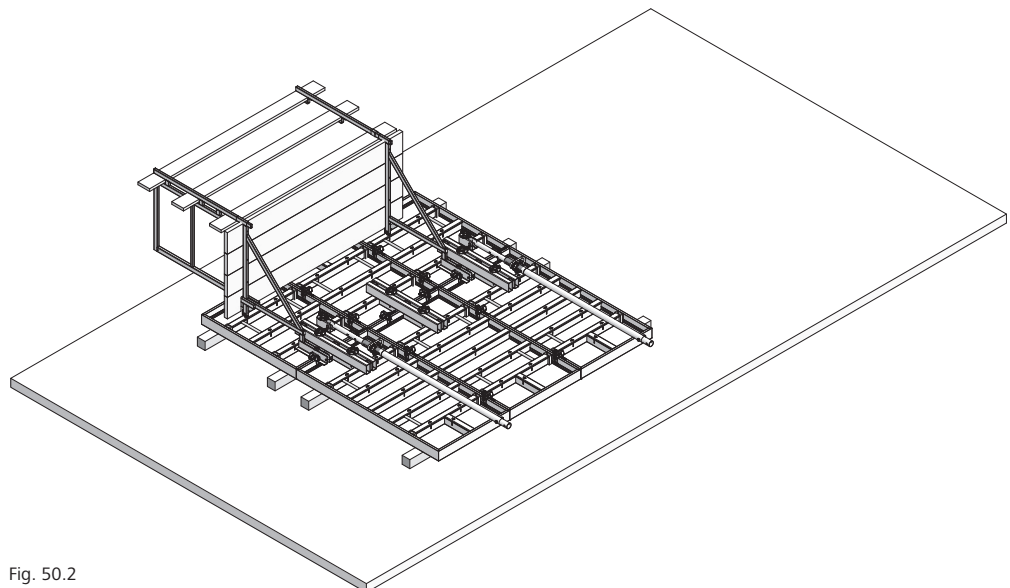

Fig. 50.2
3. Install the assembly locks, steel rails, bracing, and walkway brackets (Fig. 50.2).